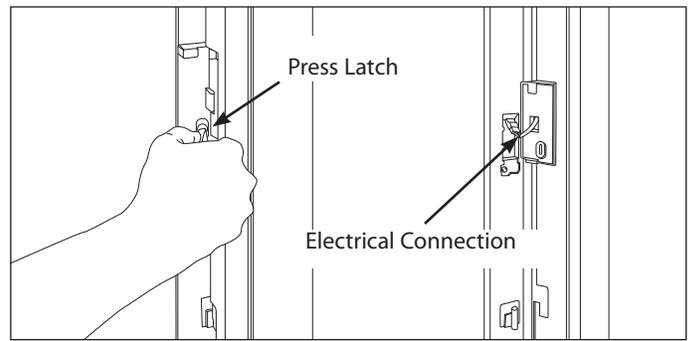

Figure 6-12.
2. Open the right food door. Press latch to open mullion. (See Figure 6-12)